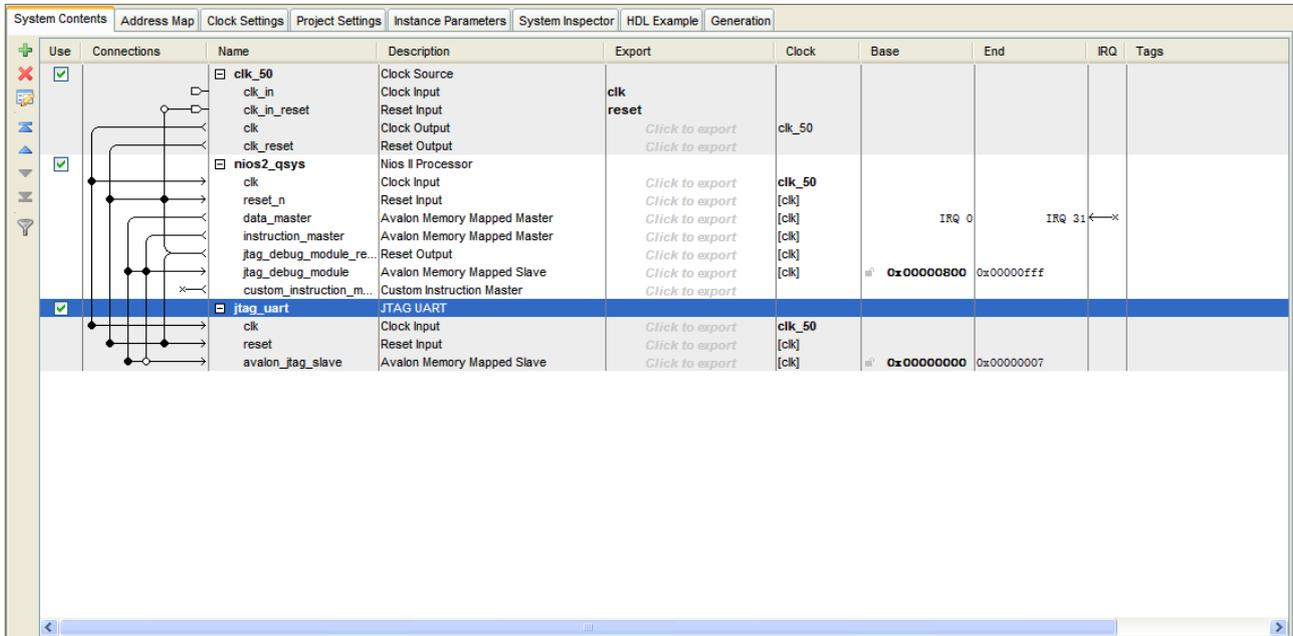

Figure 1-25 Connect JTAG UART
15. Connect the **clk** and **clk_reset** and **data_master** as shown in Figure 1-25.